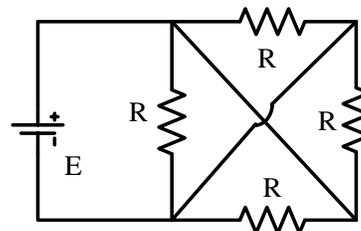

Figure-2
3. Then connect the circuit as shown in figure-2. Measure the total current and equivalent resistance. Also measure voltage across each resistance.